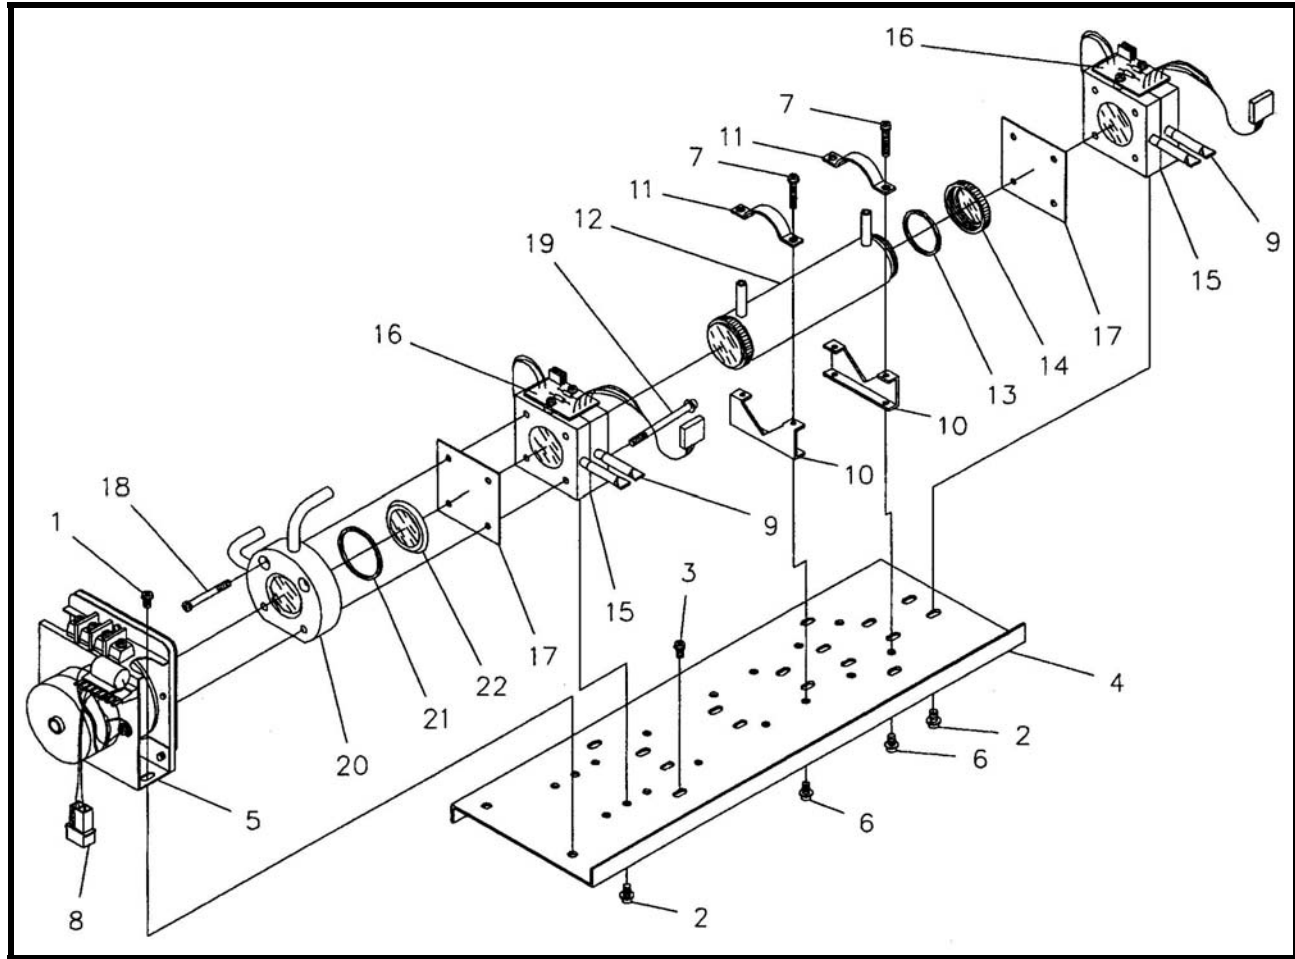

Figure 5-3 Optical Bench with Pipe and Block Type Sample Cells
| Combination | Figure 5-3 This illustrates the combination assembly. | 5.3.3 describes the disassembly cleaning and reassembly |
5.3.3. Disassembly of Combination Pipe & Block Type Cells (Figure 5-3)
- e) Disconnect the wires from the two terminal screws of the infrared source unit and unplug the 2-pin connector (No. 8 in figure 5-3) from the chopper motor.
- g) Remove the two screws (No. 1 in figure 5-3) that secure the infrared source unit to the base.
- i) Remove the two screws (No. 19 in figure 5-3) that secure the detector to the infrared source then separate the detector and block cell from the infrared source unit.
- j) While holding the detector in the palm of your hand, remove the two flat-head screws (No. 18 in figure 5-3) which fix the cell to the detector.
- m) Remove the pipe cell retaining screws (No. 7 in figure 5-3)
- n) Remove the retaining clamps (No. 11 in figure 5-3).
- o) Lift the pipe cell out of its two supports (No. 10. in figure 5-3) and remove both windows (right-hand threaded) (No. 14 in figure 5-3).